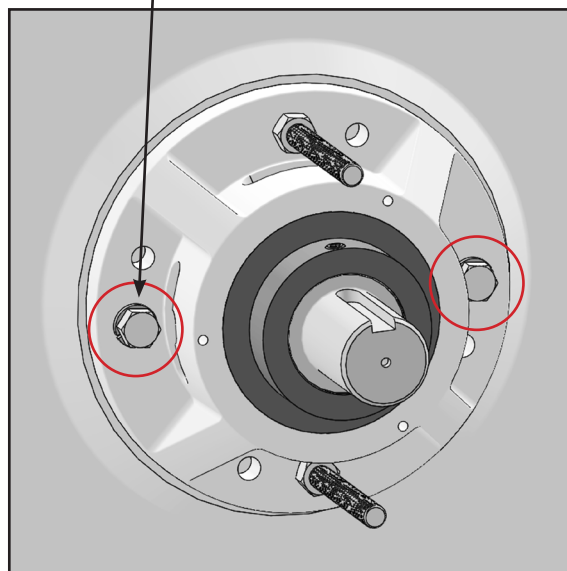

FIGURE 31
26. Once the cartridge is close to the endplate install bolts on the two available holes, drawing the cartridge onto the endplate (Figure 31). Alternately tightening 1/4 turn at a time.